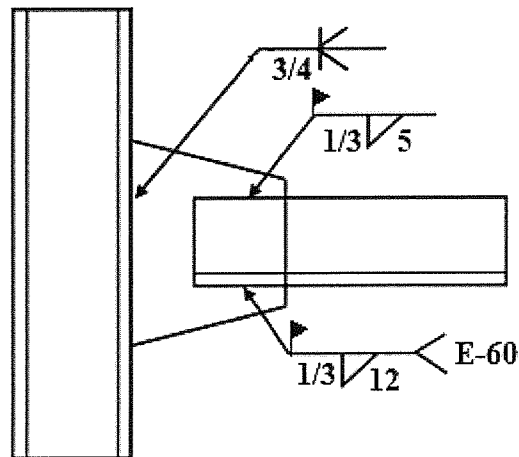

Figure 4
- (iii) Explain all of the welding symbols (location, size, length, type and any other specification of welding) shown in **Figure 4**. [10]